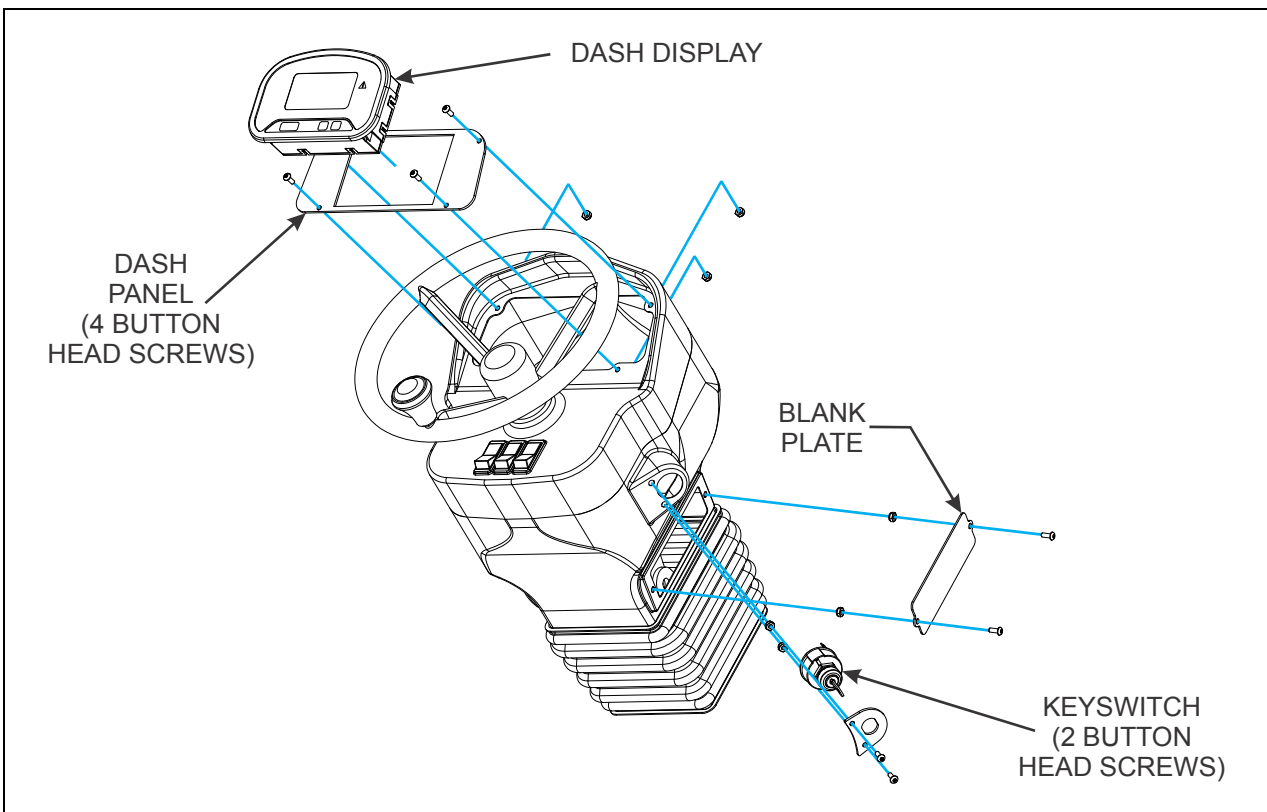

Figure 3-38: Console Dash Display Panel
2. Reach inside the steering column and disconnect the appropriate display wire connectors from the main wire harness (See Figure 3-38).